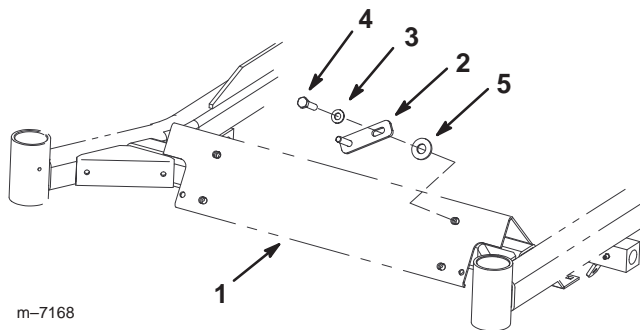

Figure 23
2. Install the weight brackets to the front of the footpan with 2 bolts (5/16 x 1-1/4 inch) and 2 large washers and 2 washers previously removed (Fig. 23).